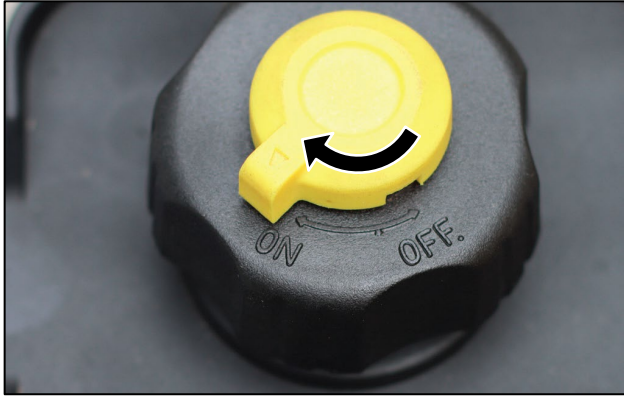

Figure 5 Fuel Cap Vent in the ON Position
2. Turn the fuel cap vent clockwise to the ON position (see Figure 5).
1. Turn the fuel cap vent clockwise to the ON position (see Figure 5).